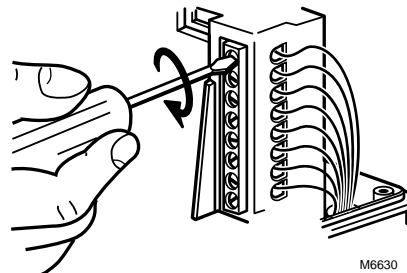

Fig. 6. Connecting power and control wiring.
All wiring must comply with local electrical codes, ordinances and regulations. Voltage and frequency of the transformer used with the actuator must correspond with the power supply and actuator characteristics. See Fig. 6 through 13 for connection information and typical wiring hookups.
1. Feed power and control wires through the conduit connector located on the bottom of the actuator case. See Fig. 6.